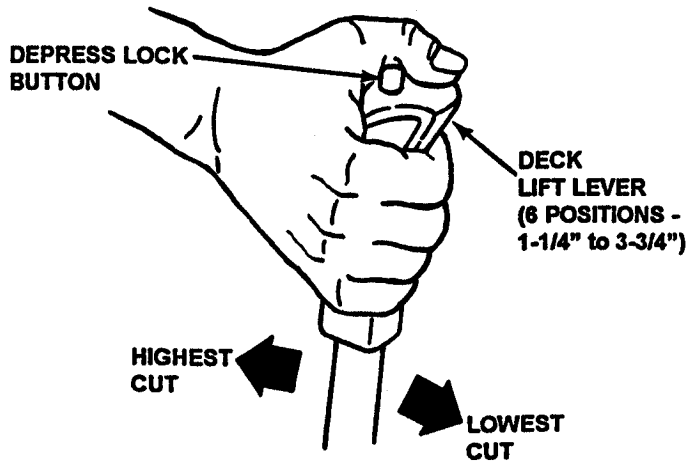

FIGURE 12
1. Depress the lock button on Deck Lift Lever shown in Figure 12 and pull lever backward to go to higher cutting height or push lever forward to go to lower cutting height. Release button to lock at new setting.